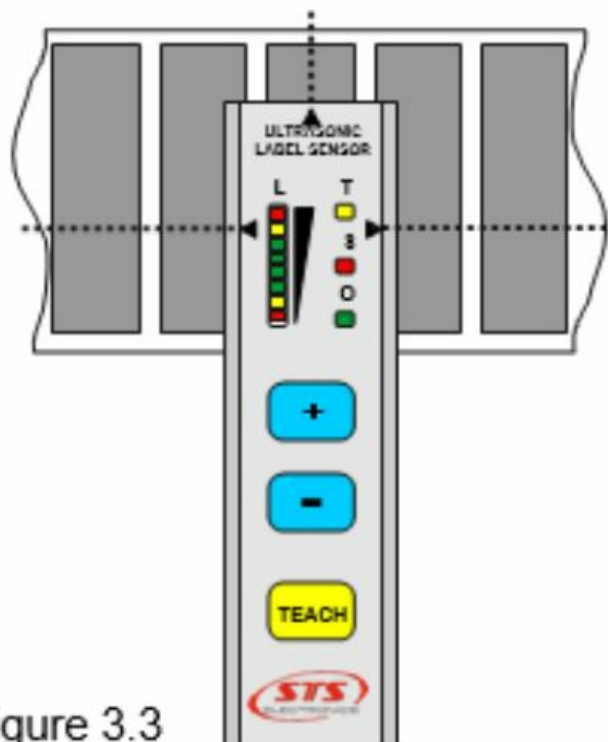

Figure 3.3
3. Position the stock so a label is under the sensor, as shown in figure 3.3.